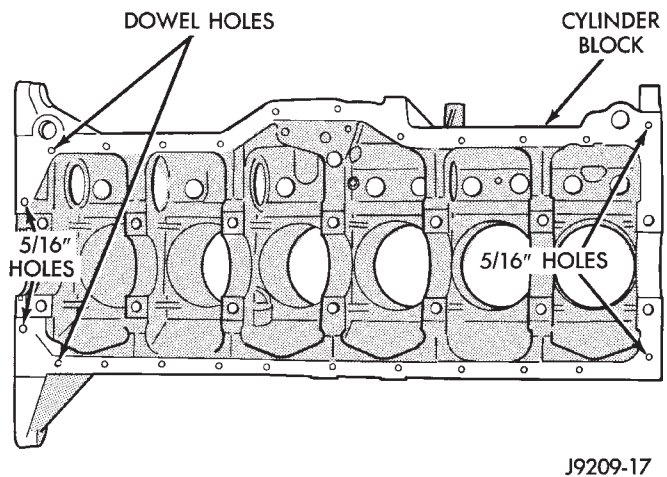

Fig. 50 Position of Dowels in Cylinder Block
(3) Install two dowels in the timing case cover. Install the other two dowels in the cylinder block (Fig. 50).
(4) Slide the one-piece gasket over the dowels and onto the block and timing case cover.
(5) Position the oil pan over the dowels and onto the gasket. If equipped with an oil level sensor, take care not to damage the sensor.
(6) Install the 1/4 inch oil pan bolts. Tighten these bolts to 14 N·m (120 in. lbs.) torque. Install the 5/16